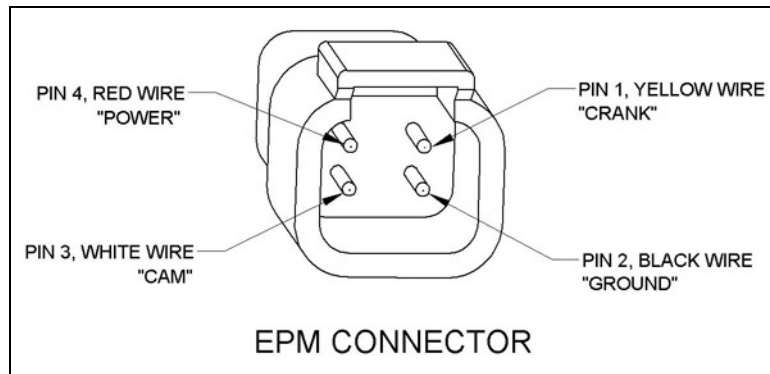

Figure 5.
- a) The EPM has a short cable with a 4 pin connector, supplied with the EPM is the mating connector housing with 5 crimp terminals. The connector pinouts are shown in figure 5.